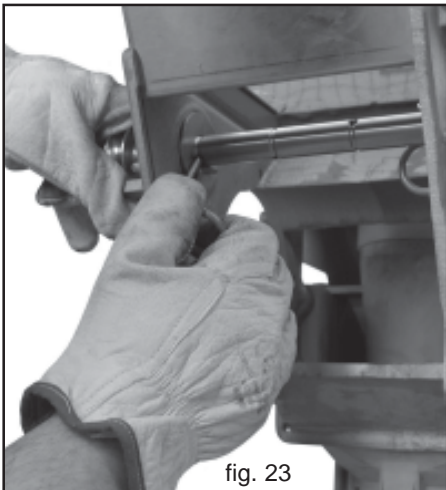

fig. 23
- 2) Remove the various parts of the agitator (Fig. 23).